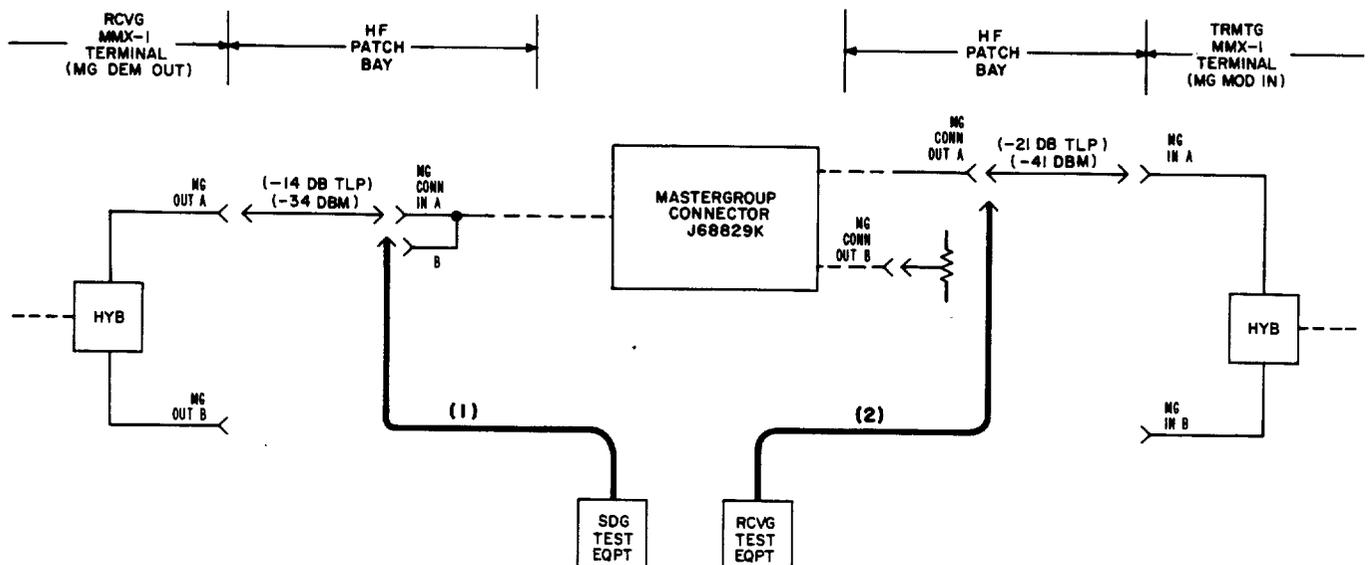

Fig. 2—Mastergroup Connector Test Connections
1	Apply a 1.8-MHz test signal at -14 dBm to the MG CONN IN jack [patch (1), Fig. 2]. Note: Remove the patch plug between this jack and the adjacent jack for the tests in this section.
2	Measure the 1.8-MHz power at the MG CONN OUT A jack [patch (2), Fig. 2]. Note: Remove the patch plug between this jack and the adjacent jack. Requirement: -21.00 dBm \pm 0.25 dB